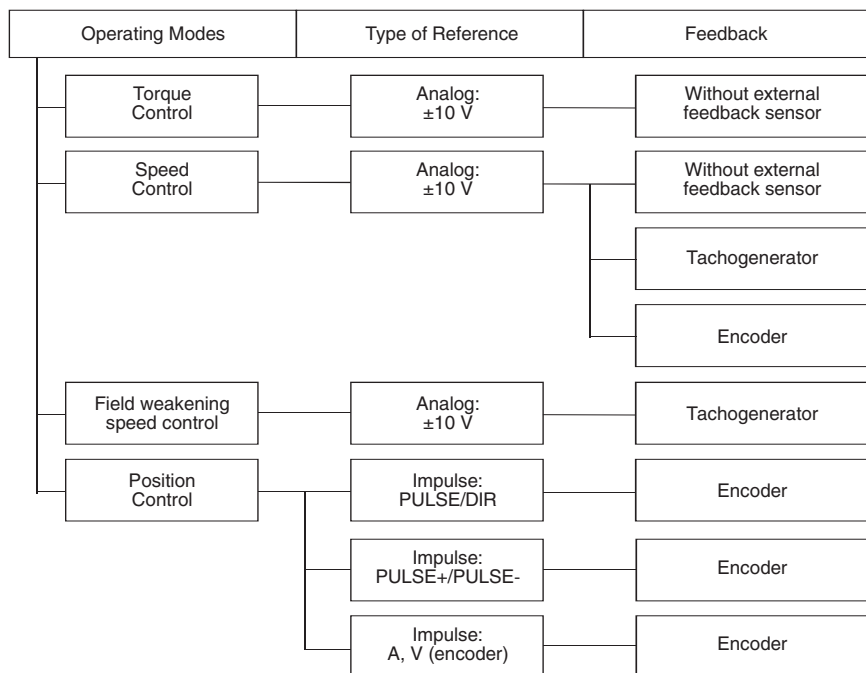

Fig. 1.3. Configuration options and operation modes
1.4.16. Figure 1.3 shows the configuration options and the operation modes of the servo amplifiers depending on the reference type and the feedback sensors. Speed control mode with a voltage drop compensation in the armature current (I^*R) has an adjustment range 1:50.